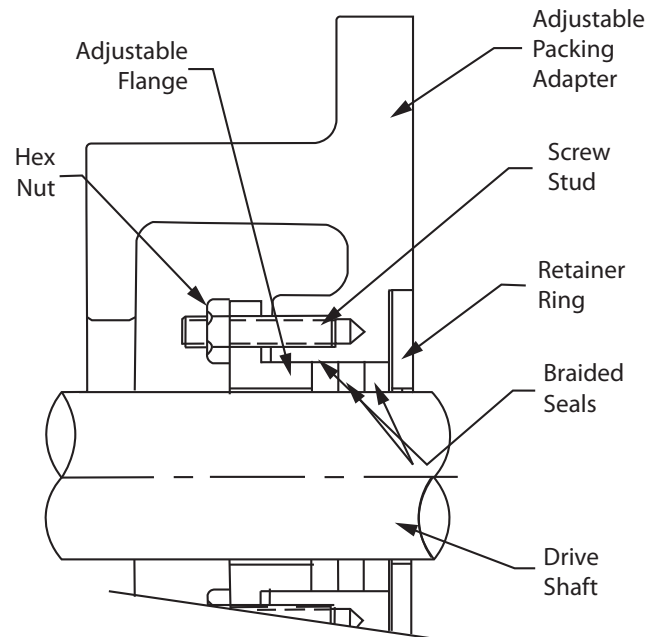

Figure 1 - Assembly
2. Position adapter on reducer output hub so that small end (end with 12 holes) rests on reducer. Select the 4 mounting holes to match the shaft used (Figure 1).
1. Use lifting tab to hoist screw conveyor drive into position. Slide shaft into screw and adapter over trough end studs. Only one set of adapter holes will fit over the trough end studs. If the mounted position of the screw conveyor varies more than 15° from any of the four horizontal mounting positions (Figure 1), an incorrect set of holes has been selected for coupling adapter to reducer. This can be corrected by removing adapter screws and rotating reducer to its proper position. Reinstall and tighten adapter screws to torque specified in Table 4. Install lockwashers and tighten nuts on trough end studs. Attach drive shaft to screw.